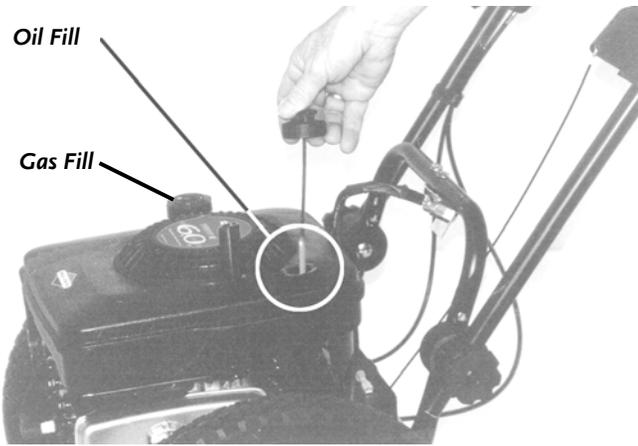

Figure 2
1. Place the machine on a level surface and initially add 1/2 of the SAE 30 high detergent oil recommended by the engine manufacturer and wait one minute for the oil to settle (**Figure 2** on page 13).
2. Check the dipstick and continue adding a few ounces of oil at a time, rechecking the dipstick until the oil reaches the fill mark. Be careful not to overfill (**Figure 2** on page 13).
1. Check the oil level every time you use the DR TRIMMER/MOWER (*Figure 2* on page 13).
2. Check the gas level (*Figure 2* on page 13).